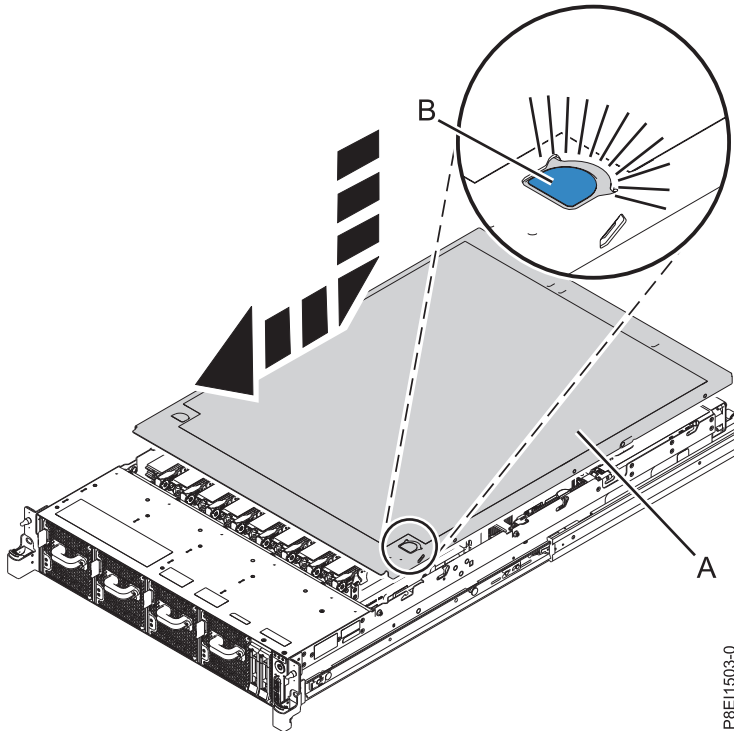

Figure 109. Installing the service access cover
2. Press down to engage the pins and slide the cover to the front of the system until the blue release latch **(B)** locks in to place, as shown in Figure 109.